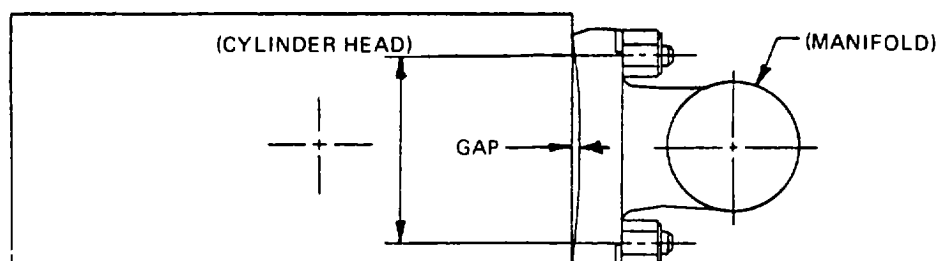

Figure 6. - Exhaust Manifold Warpage
- b. Measure gap between cylinder head and exhaust manifold gasket flange face with a 6 mm (1/4") wide feeler gauge. If 0.38 mm (0.015") feeler gauge will pass gap in region shown in Figure 6, resurfacing of exhaust manifold gasket flanges must be performed with all sections of manifold assembly together. A maximum of 0.84 mm (0.025") material can be removed.